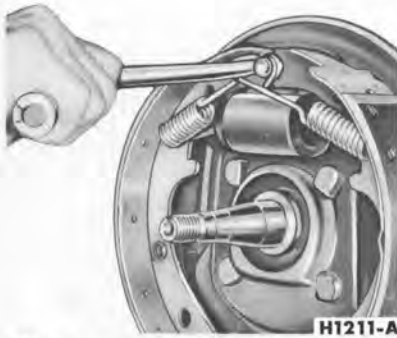

FIG. 7—Retracting Spring Installation
5. Install the secondary shoe retracting spring followed by the primary shoe retracting spring (Fig. 7).